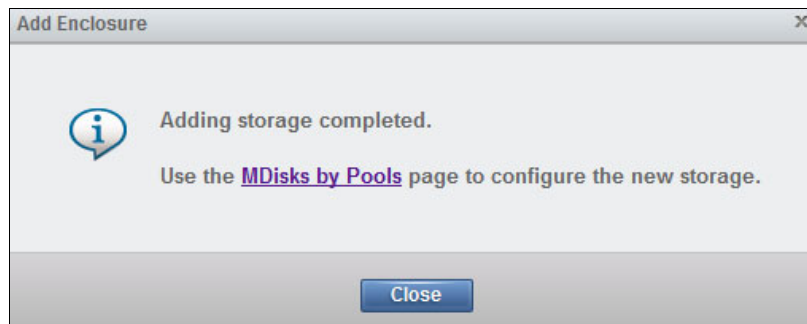

Figure 5-10 Add storage completed
8. The Add Enclosure wizard finishes by advising you that MDisks must be added manually through the MDisks by Pools page (Figure 5-10).